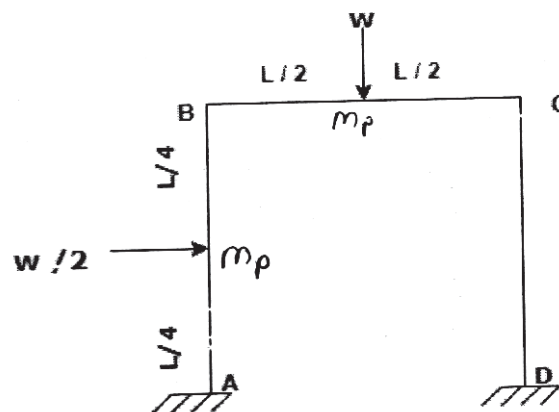

Figure 9
b) Determine collapse load for the frame as shown in figure 9. [13]